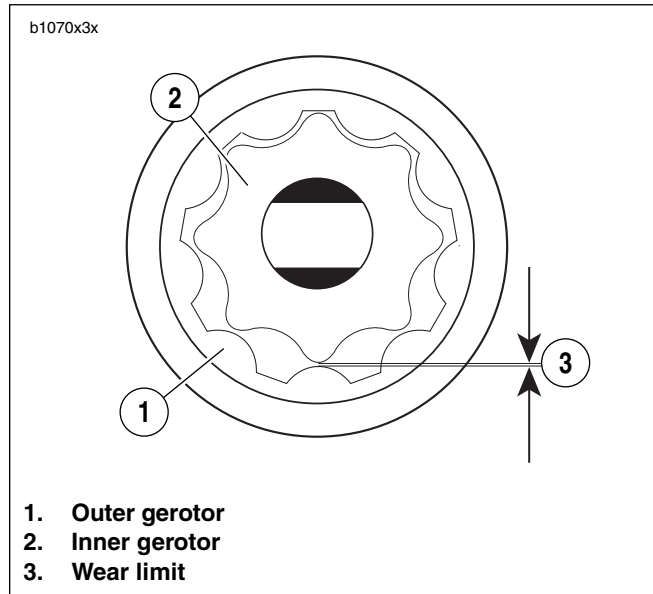

Figure 3-122. Gerotor Wear Limits
2. See Figure 3-122. Inspect both gerotor sets for wear.